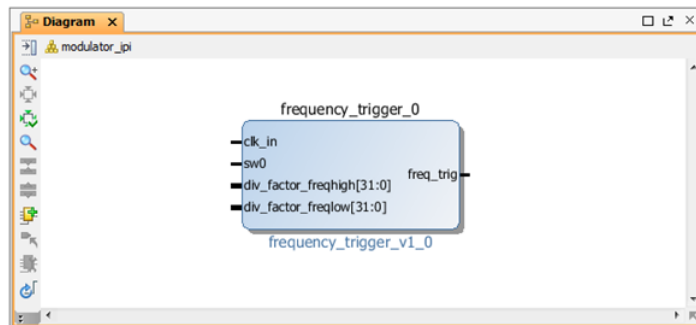

Figure 24. Automatically instantiated frequency_trigger_v1_0 core in the IP Integrator
- 3-1-5.** When you find it, press enter on the keyboard or simply double-click on the **frequency_trigger_v1_0** core in the IP Catalog and the selected core will be automatically instantiated into the IP Integrator design canvas, see Figure 24.